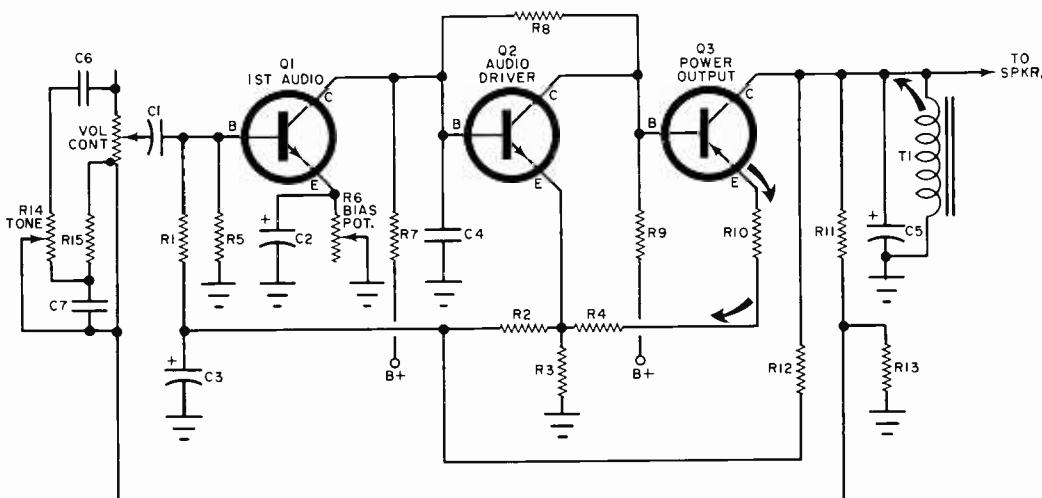

Fig. 17. The audio stage can be checked by listening for a "click" in the speaker as set is turned on, or upon injecting a signal at the volume control.
**STAGE-BY-STAGE TROUBLE ISOLATION** Trouble isolation always begins with the audio stage (see Fig. 17). This stage can be given a quick check by listening for a "click" or a "thump" as the set is turned on. Dead silence—except for the mechanical click of the switch—is an indication that the stage is inoperative. Another method of checking this stage is to look for a voltage drop across the output transistor collector load. A zero indication on the meter denotes an inoperative stage.